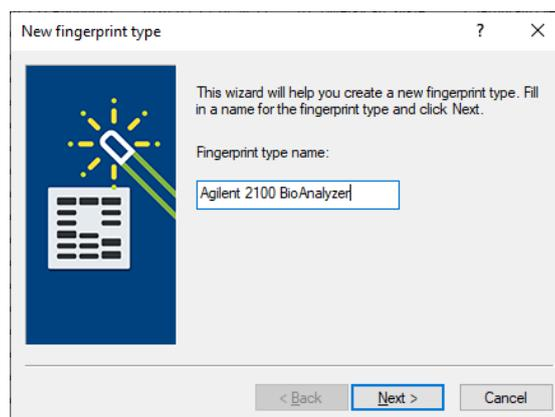

Figure 5: Specify an experiment name.
9. Press <**OK**>, enter a name, for example “Agilent 2100 Bioanalyzer” and press <**Next**> (see Figure 5).